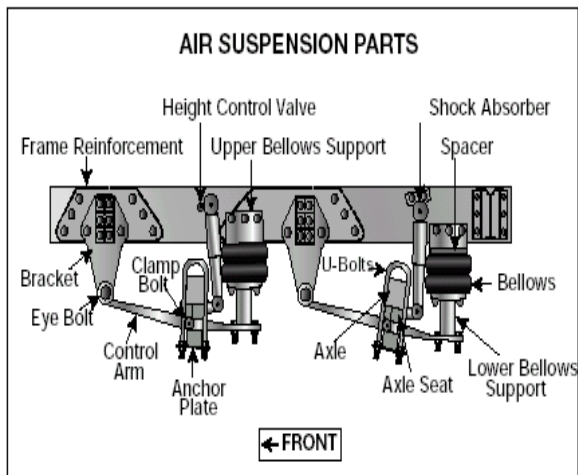

Figure 3.4
- Air suspension systems that are damaged and/or leaking. See Figure 3.4.